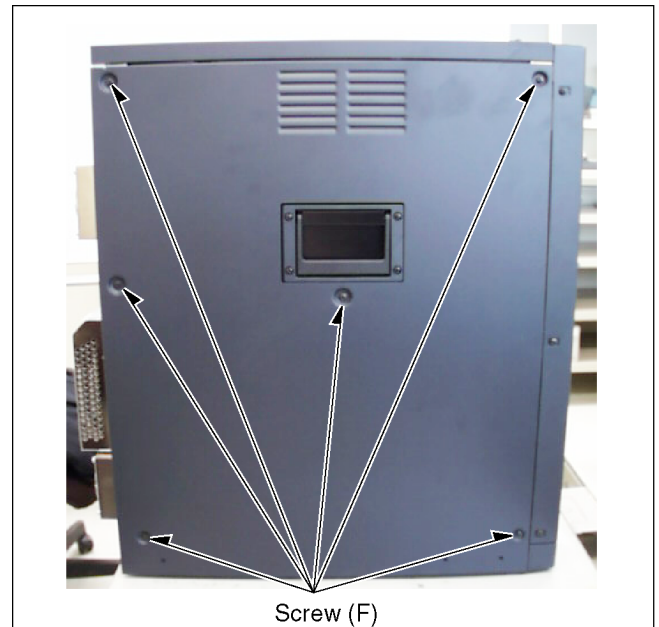

Figure D9
1. Unscrew the 6 screws (F) and remove the Side Panel. (Figure. D9 shows the right side panel.)